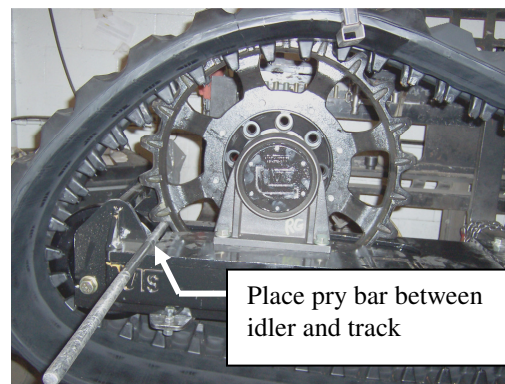

Fig. 1
- a. With a pry bar move the rear sprocket clockwise this will move the slack in the track to the front of the VTS. (**Fig. 1**)